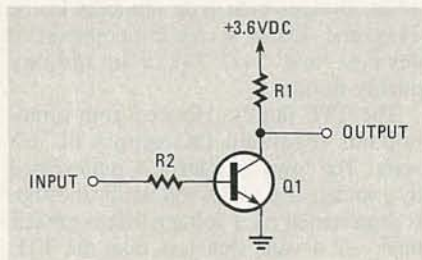

FIG. 4—AN RTL INVERTER. Note that RTL technology is now obsolete.
The RTL family was one of the earliest to become commercially available in IC form. It is, however, now completely obsolete. RTL is not used in new designs, and is currently stocked only for replacement purposes in repairs. Figure 4 shows the standard RTL inverter circuit. This device operates from a monopolar DC power supply; the largest power supply that can safely be used is $+4$ volts DC, with $+3.6$ -volts DC being more common.
Note in Fig. 4 that there are resistors in both input (i.e. base) and power supply (i.e. collector) leads. An advantage of RTL is that no combination of opens or shorts will destroy the device, provided that no voltage greater than $+4$ (DC) exists on the circuit board. A disadvantage of RTL, however, is that the operating frequency is limited to 4 or 5 MHz.